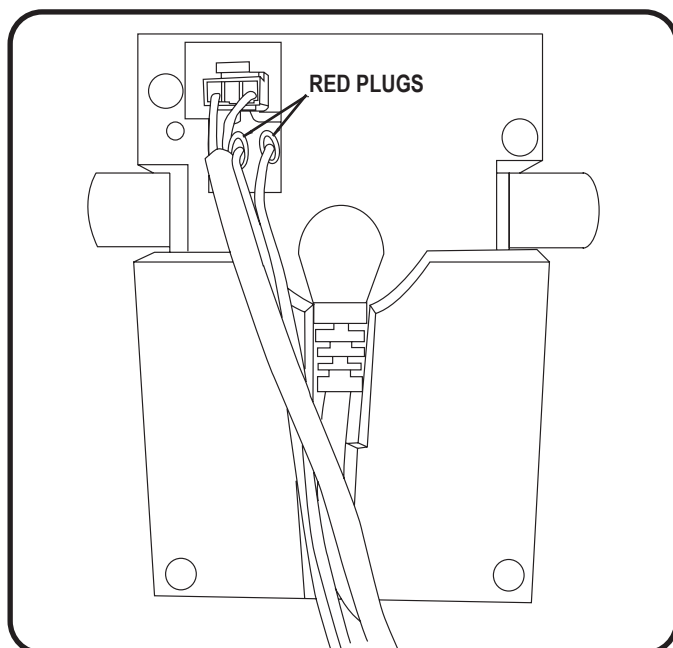

Figure 5.2 Safety Switch Plugs
2. If the motors are out of sync, disconnect one of the two red safety switch plugs from the motor control box (**Fig. 5.2**).
4. Reconnect the red safety switch plug into the motor control box (**Fig. 5.2**).